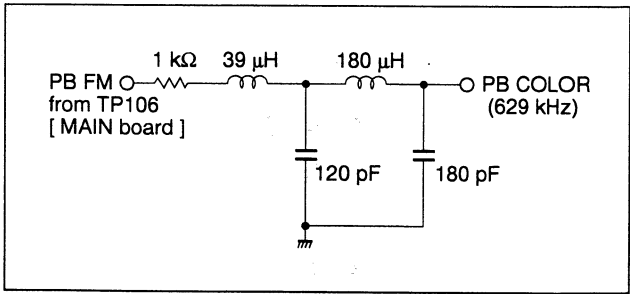
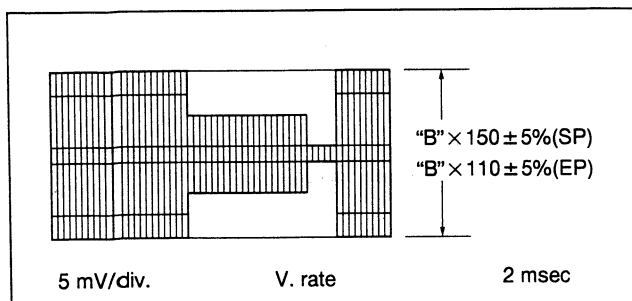

Fig. 3-3-4 LPF
Fig. 3-3-5 REC color level
- (1) Connect an oscilloscope to PB COLOR of a LPF(refer to Fig. 3-3-4) and TP111(negative slope) on the MAIN board.
- (2) Playback the SP color bar signal of MH-1H alignment tape.
- (3) Set the tracking of the Front panel to the Auto tracking off position by simultaneously pressing the CH "▲" and "▼" buttons.
- (4) Adjust by pressing the CH "▲" or "▼" buttons of the Front panel for maximum level of the color waveform and make a note of the higher color level "B".
- (5) Press the STOP/EJECT button and eject the MH-1H alignment tape.
- (6) Set EVR mode by pressing "K" button of the presetting unit more than 2 seconds.
- (7) Set "A : 2" by pressing 2 digit key of the remote controller.
- (8) Before recording, adjust CH "▲" or "▼" button of the remote controller so that the higher level channel becomes $150 \pm 5\%$: SP ($110 \pm 5\%$: EP) of the note "B" level during playback as shown in Fig. 3-3-5.
- (9) Record a color bar signal in SP (EP) mode, and playback recorded color bar signal.
- (10) Set normal VCR mode by pressing "K" button again so adjustment data is memorized.